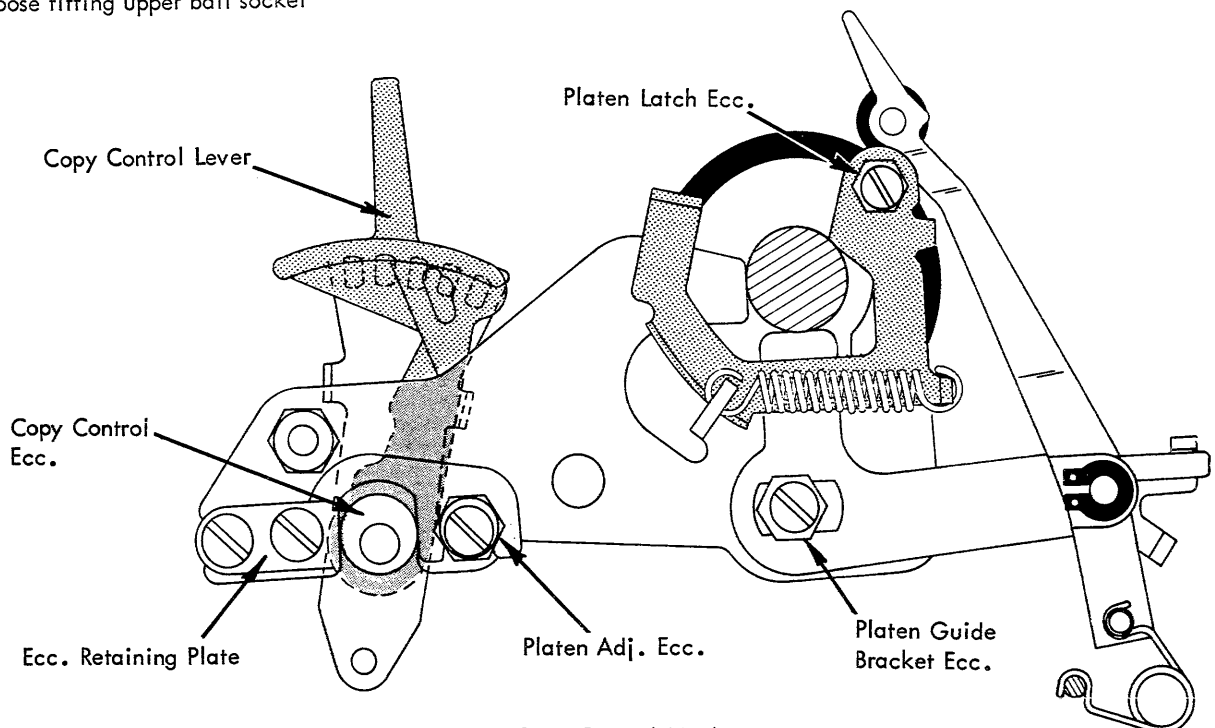
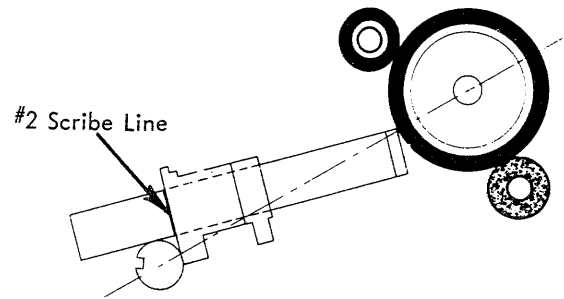

FIGURE 88. Copy Control Mechanism
FIGURE 90. Front to Rear Platen Adjustment
1. Copy Control Lever - With the copy control lever detented in the forward position, the high points of the eccentrics should be vertical (Fig. 88). Adjust the copy control lever on the shaft to satisfy this condition.
2. Eccentric Retaining Plates - For maximum efficiency of the copy control eccentrics, adjust the plate on each side of the machine so that no front to rear play exists between the eccentrics and the retaining plates (Fig. 88). Be sure that no binds exist.
3. Platen Latches - Adjust the platen latch eccentrics with the high part down so that the platen is held firmly in position vertically and horizontally (Fig. 88). The latches should latch and unlatch freely with the feed rolls released.
Adjust the platen guide bracket eccentrics to obtain this condition (Fig. 88). The high part of the eccentrics should be kept to the rear. It is necessary to remove the deflector and front feed rolls when checking the adjustment with the Hoovermeter.
- b. Platen Front to Rear - With the head of the Hoovermeter set at the #2 scribe line, the tool should just span the distance between the platen and the print shaft as illustrated in Fig. 90. Adjust the platen adjusting eccentrics to obtain this condition (Fig. 88).